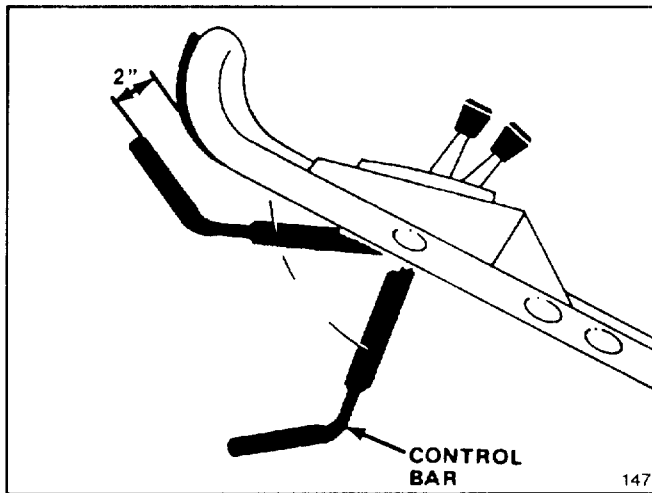

Figure 7
2. Push the control bar down to the lowest position (Fig. 7). This “latches” the mechanism prior to engaging the blade.
2. Push the control bar down to the lowest position (Fig. 7).